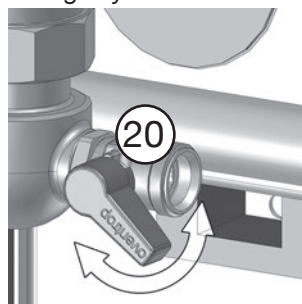
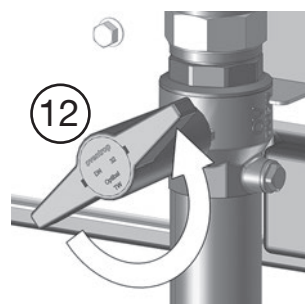

Fig. 5.10: Bleed the storage cylinder circuit side
Fig. 5.11: Open the isolating ball valve PWC side
14. **Bleed the storage cylinder circuit side** by opening the **fill and drain ball valve (20)** until water escapes (Fig. 5.10).
15. Close the fill and drain ball valve (20) again.
16. Open the isolating ball valve (12) (PWC) **slowly** (Fig. 5.11).